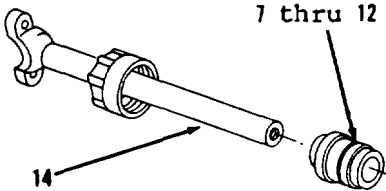
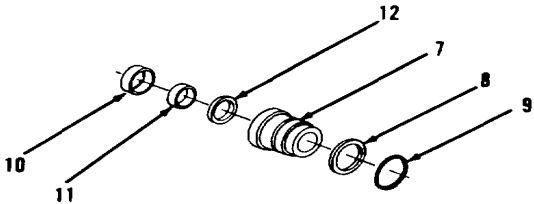

Figure 17-4.
Figure 17-5.
6. Remove items 7 thru 12 as an assembly (Figure 17-4).
7. Remove ring (8), preformed packing (9) and seals (10 thru 12) from head (7, Figure 17-5). Discard preformed packing (9) and seals (10 thru 12).
2. Using clean oil, lubricate new seals (12 thru 10), new preformed packing (9) and ring (8, Figure 17-5).
3. Using seal installer, install new seals (12 thru 10) in head (7). Lip of seal (11) is toward inside of head (7). Lip of seal (10) is toward outside of head (7).
4. Install items 12 thru 7 as an assembly on rod assembly (14, Figure 17-4).